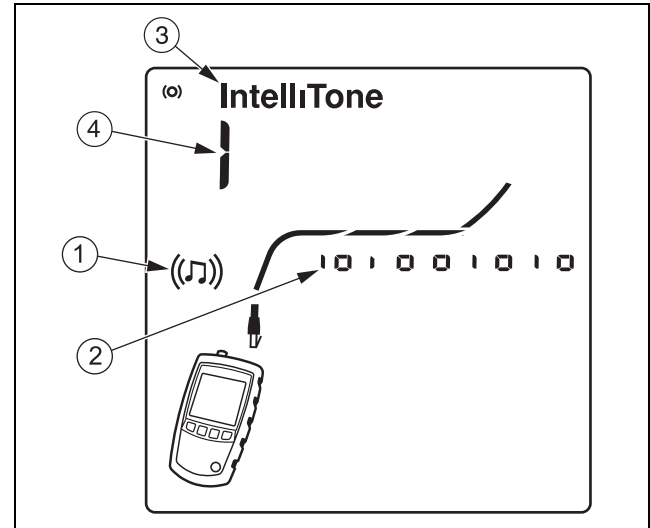

Figure 24. IntelliTone Toner Mode Display
Refer to Figures 24 and 25.
- 3 Press  until , **IntelliTone**, and a scrolling pattern of 1s and 0s appear on the display (①, ②, and ③ in Figure 24).
- 4 To toggle between the two IntelliTone songs press  then . The display shows the song number (④).